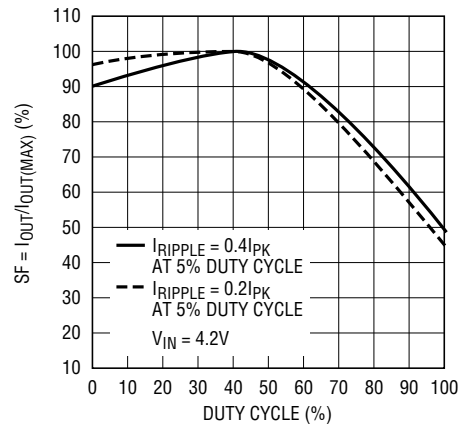

Figure 2. Maximum Output Current vs Duty Cycle
**Note 6:** Peak current sense voltage is reduced dependent on duty cycle to a percentage of value as given in Figure 2.
when the LTC1772 is operating below 40% duty cycle. However, once the duty cycle exceeds 40%, slope compensation begins and effectively reduces the peak inductor current. The amount of reduction is given by the curves in Figure 2.
However, for operation that is above 40% duty cycle, slope compensation effect has to be taken into consideration to select the appropriate value to provide the required amount of current. Using Figure 2, the value of RSENSE is: